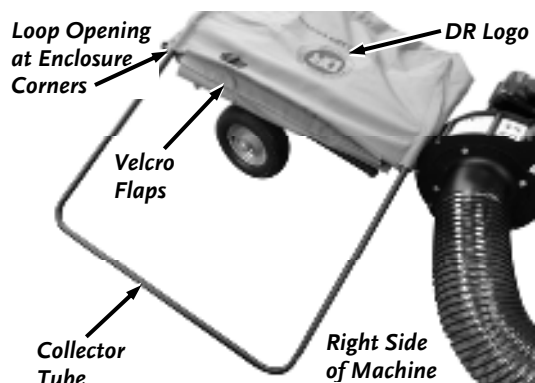

Figure 20
2. Standing on the right side of the machine, insert the ends of the first Collector Tube into the corner loops in the Enclosure (**Figure 20**). Note the orientation of the DR Logo and top Velcro Flaps.